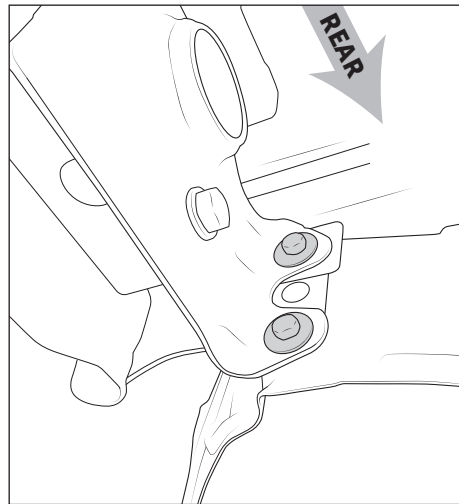

Figure 3: Driver's Side shown
5. Support the bumper and remove the two outboard bolts from each side of the main mounting points (fig. 3). SAVE hardware for later use.